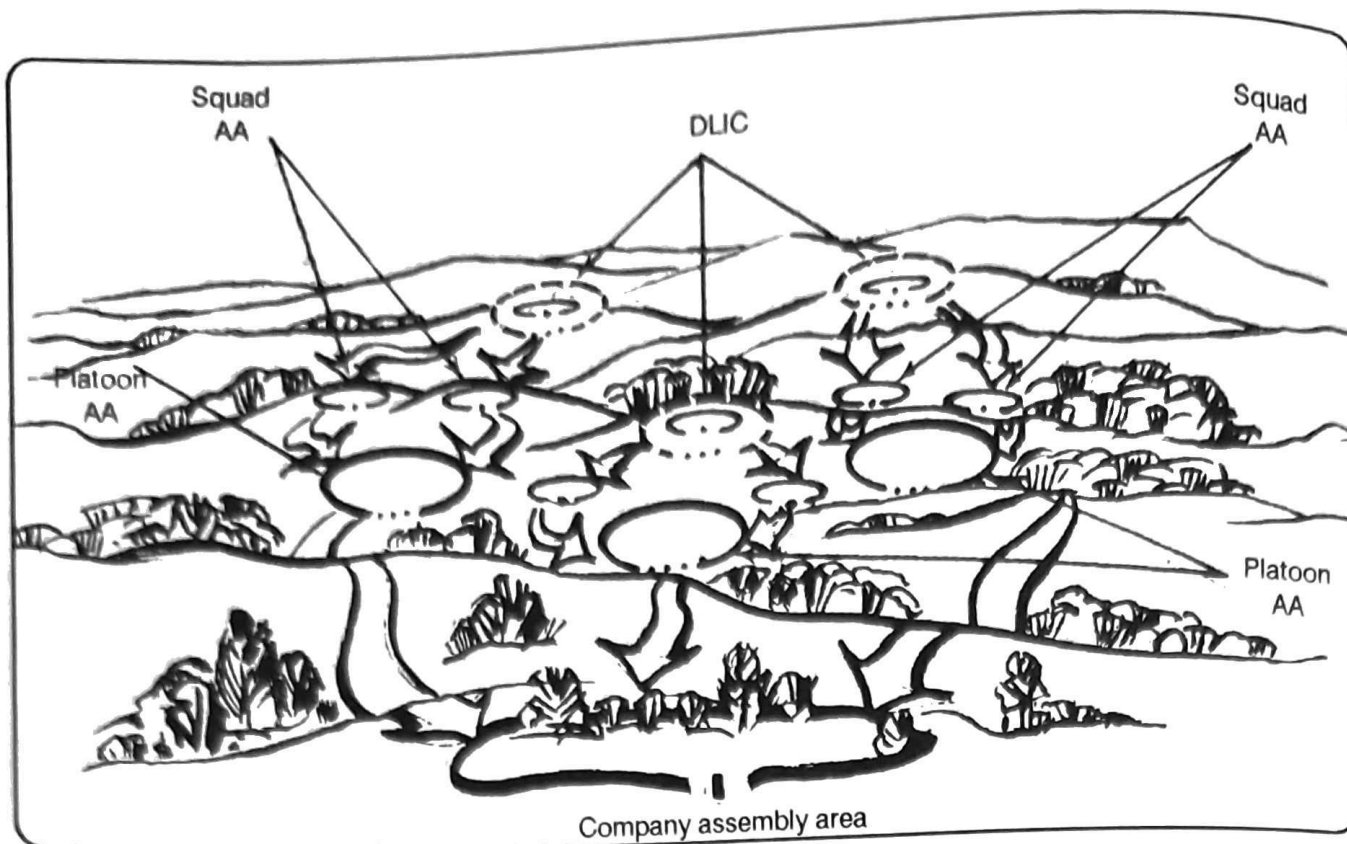

Figure 3-34. Withdrawal not under pressure.
(2) *Withdrawal not under enemy pressure.* A withdrawal not under pressure (Figure 3-34) is conducted with speed, secrecy, and deception. It is best done at night or during other reduced visibility (fog, snow, rain, or smoke). Usually, all elements move to the rear at the